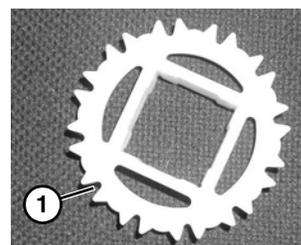

Figure 15
**NOTE:** The cogged drive teeth on the belt should engage the deep grooves of the sprocket (Figure 15, item 1).